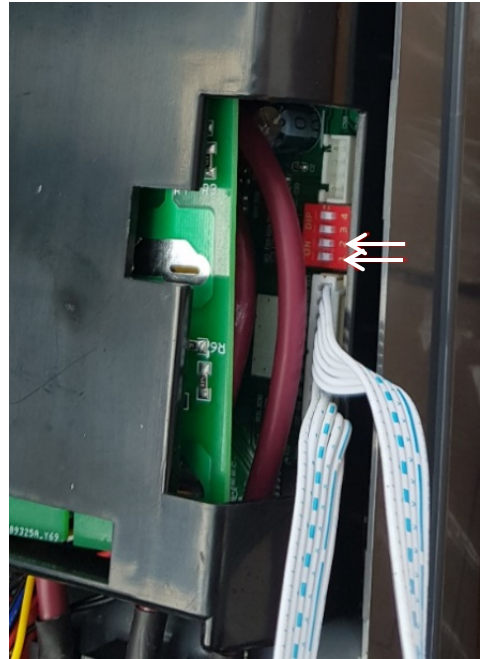

Figure 15: DIP Switch Position
- Find the DIP Switches at the right side of the unit (beside the display cable). Carefully turn DIP Switch 1 & 2 to ON as shown in Figure 15 on page 30.